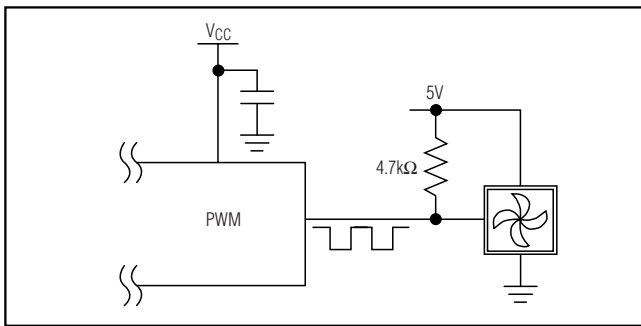

Figure 6. Controlling a PWM Input Fan with the MAX6615/MAX6616's PWM Output (Typically, the 35kHz PWM Frequency Is Used)
- 3) PWM\_ directly drives the logic-level PWM speed-control input on a fan that has this type of input. This approach requires fewer external components and combines the efficiency of (1) with the low noise of (2). An example of PWM\_ driving a fan with a speed-control input is shown in Figure 6. Bit D4 in register 02h should be set to 1 when this configuration is used.